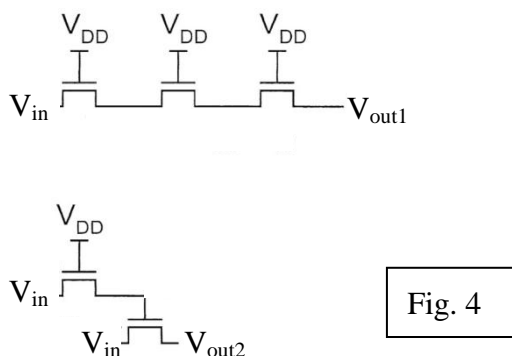

Fig. 4
- Supposed and  $V_{tm} = 0.5V$ , find  $V_{out1}$  and  $V_{out2}$  in Fig. 4 by neglecting the body effect for: (5%)